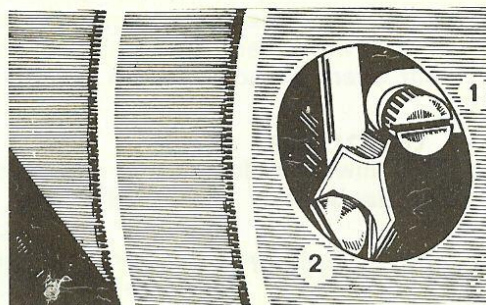

fig. 2
- idling is regulated by means of spring loaded screw near the jet holder and can be reached via one of the holes in the large pulley (fig. 2)